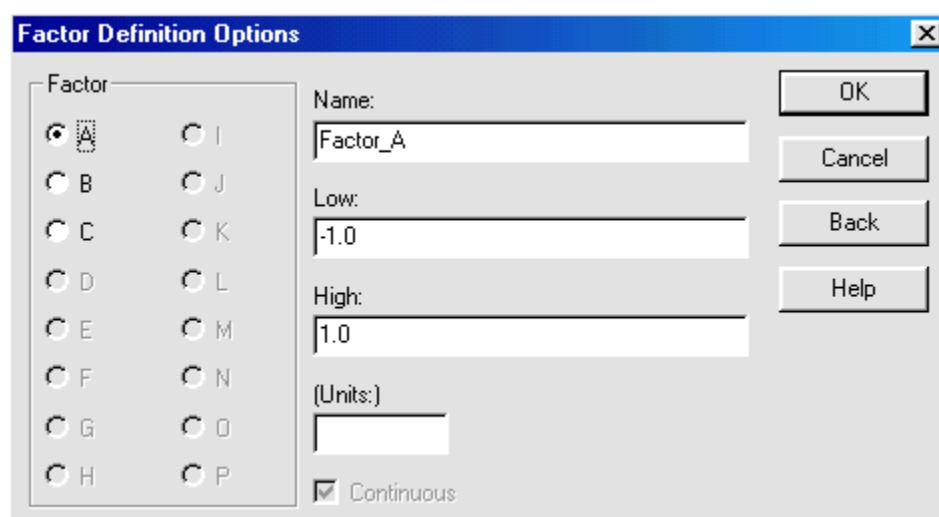

Figure 11-2. Factor Definition Options Dialog Box
3. Click OK to display the Factor Definition Options dialog box shown in Figure 11-2.